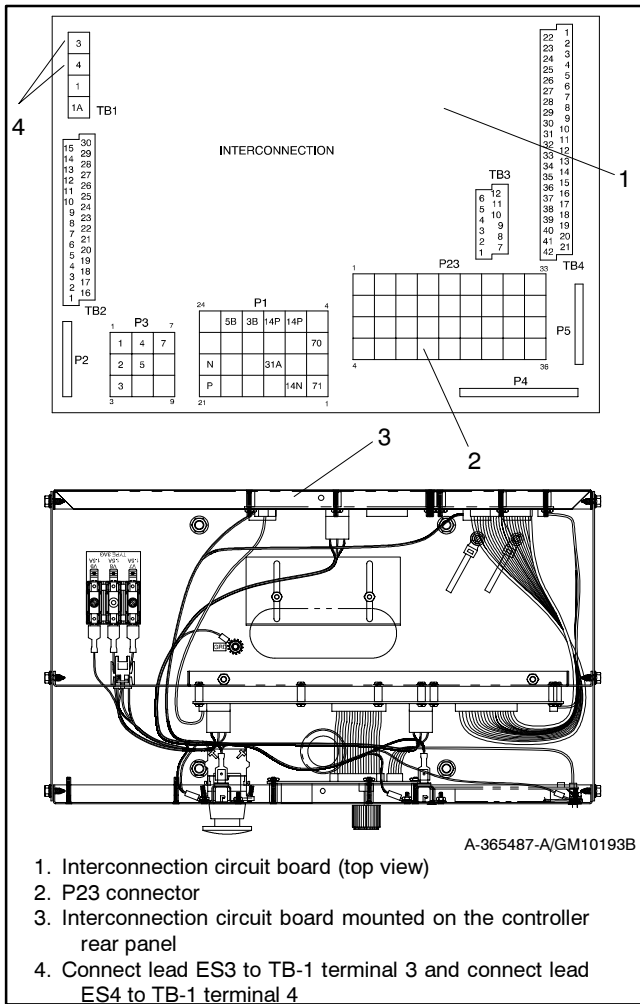

Figure 5 Attaching Wiring Connection Harness to Controller Circuit Board
2.6 Plug the wiring harness connector into the interconnection circuit board's P23 connector. Connect lead ES3 to TB-1 terminal 3 and connect lead ES4 to TB-1 terminal 4. See Figure 5. If access to the interconnection circuit board is difficult, remove the two rear controller panel top screws and loosen the bottom screws to swing the rear controller panel down.